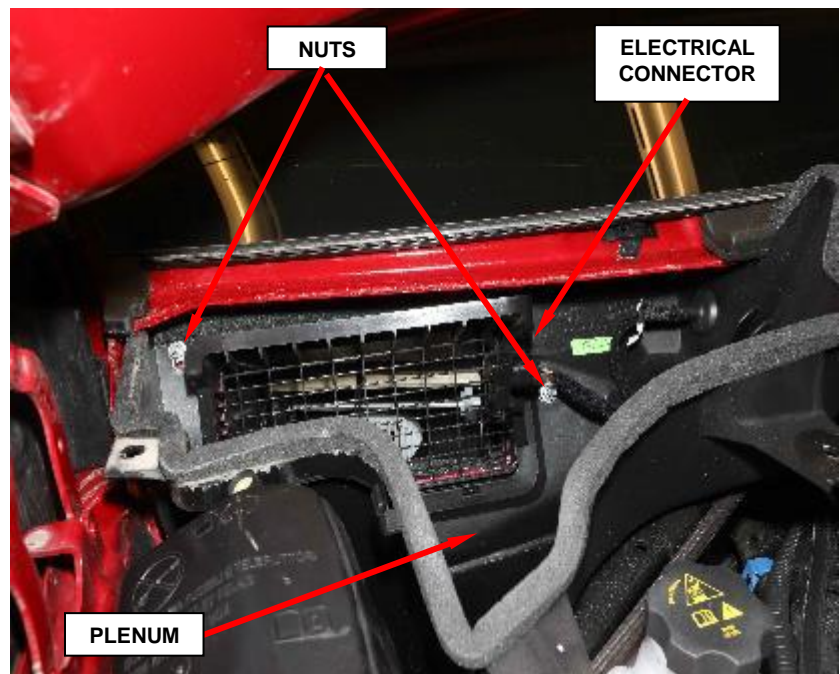

Figure 11 – Plenum Fasteners
6. Remove the two nuts and two push pins from the plenum (Figure 11).
7. Disconnect the electrical connector and release the wire harness pigtail from the plenum (Figure 11).